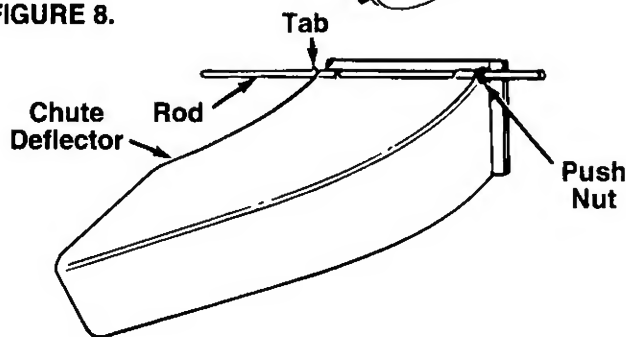

FIGURE 9.
1. Slide the rod into the upper edge of the chute deflector so the welded tab on the rod is toward the left side of the chute deflector. When assembled correctly, the rod will extend further to the left side than the right side. See figure 9.